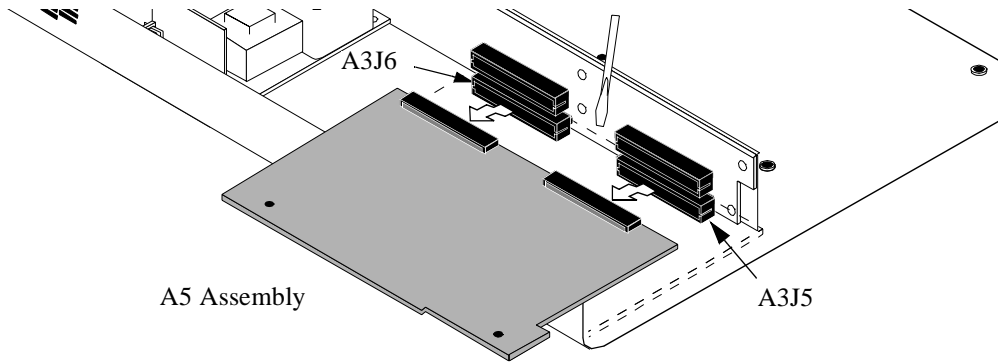

Figure 36 **Removing the A5 Assembly**
7. If the Cellular Adapter is an Option 001 or 003, using a flat-blade screwdriver, carefully tilt the end of the A5 assembly over the edge of the deck and unplug it from the J5 and J6 connectors of the A3 assembly, see figure 36 .